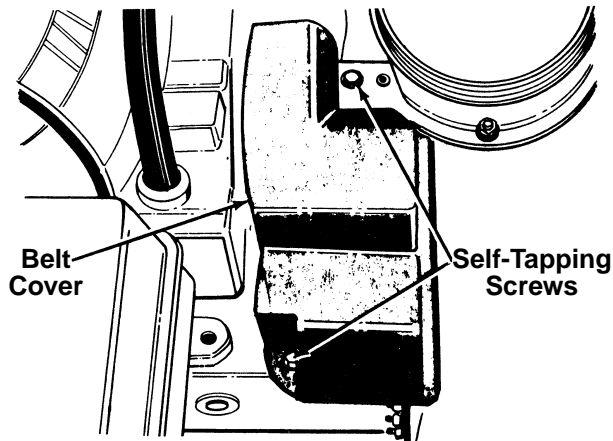

Figure 19
1. Remove the plastic belt cover on the front of the engine by removing the two self-tapping screws. See figure 19.